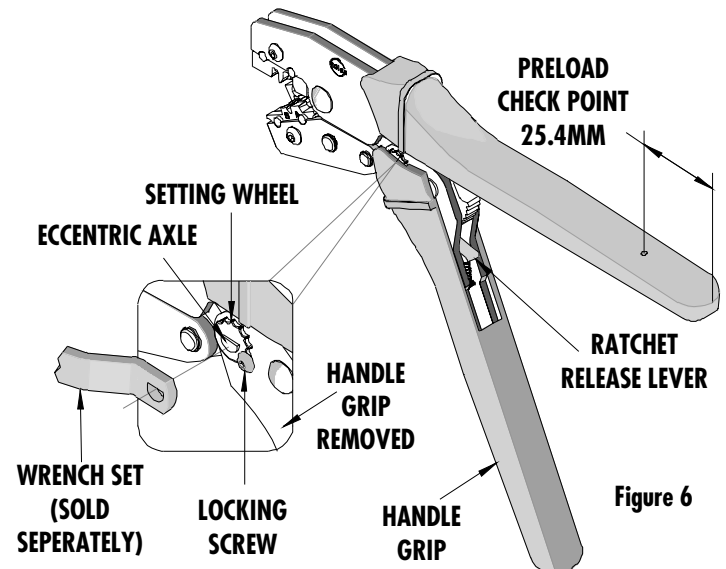

Figure 6
3. Make certain all pins; pivot points and bearing surfaces are protected with a thin coat of high quality machine oil. Do not oil excessively. This tool was engineered for durability but like any fine piece of equipment it needs cleaning and lubrication for a maximum service life of trouble free crimping. Light oil such as 30 weight automotive oil used at the oil points shown in Figure 6, every 5,000 crimps or 3 months, will significantly enhance the tool life.
Should this tool ever become stuck or jammed in a partially closed position, **Do Not force the handles open or closed.** The tool will open easily by pressing the ratchet release lever. See Figure 6.
How To Adjust Tool Preload (See Figure 6)